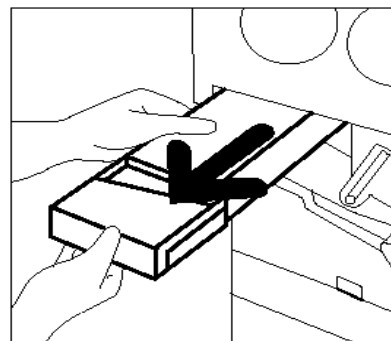

Figure 16: Removing the old Dry Ink Waste Container
- 4** Grasp the Dry Ink Waste Container with your right hand, as illustrated in Figure 16, and pull the Dry Ink Waste Container completely out of the copier/printer.